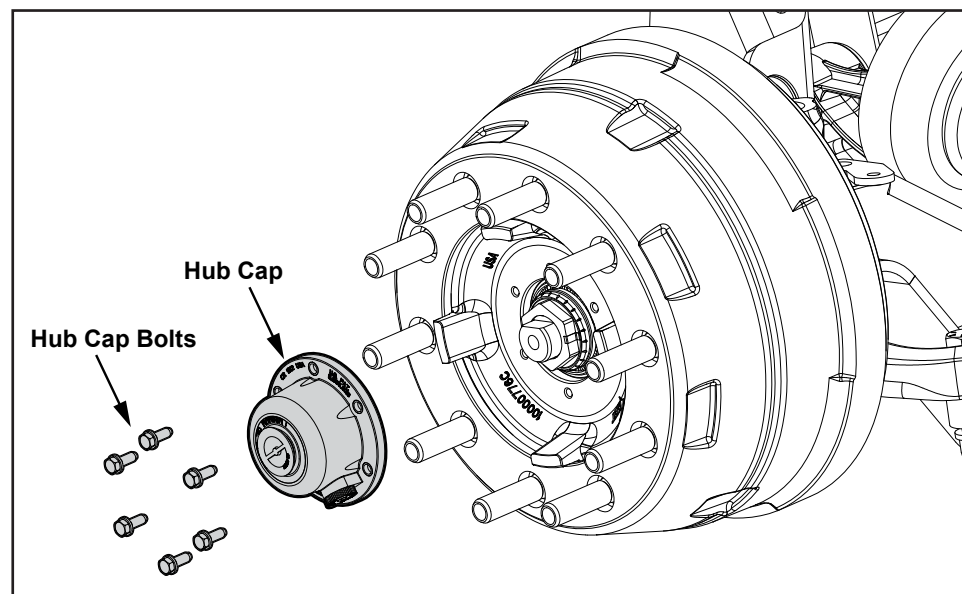

Figure 13
1. Remove the hub cap bolts, washers and hub cap and set aside for reinstallation (see *Figure 13*).
1. Clean the hub and axle flange of all residual gasket material (see *Figure 13*).
2. Reinstall the hub cap a new gasket (obtained locally) and secure with bolts and washers set aside in “**Tag And Pusher Wheel Ends**”, Step 1 (see *Figure 13*).